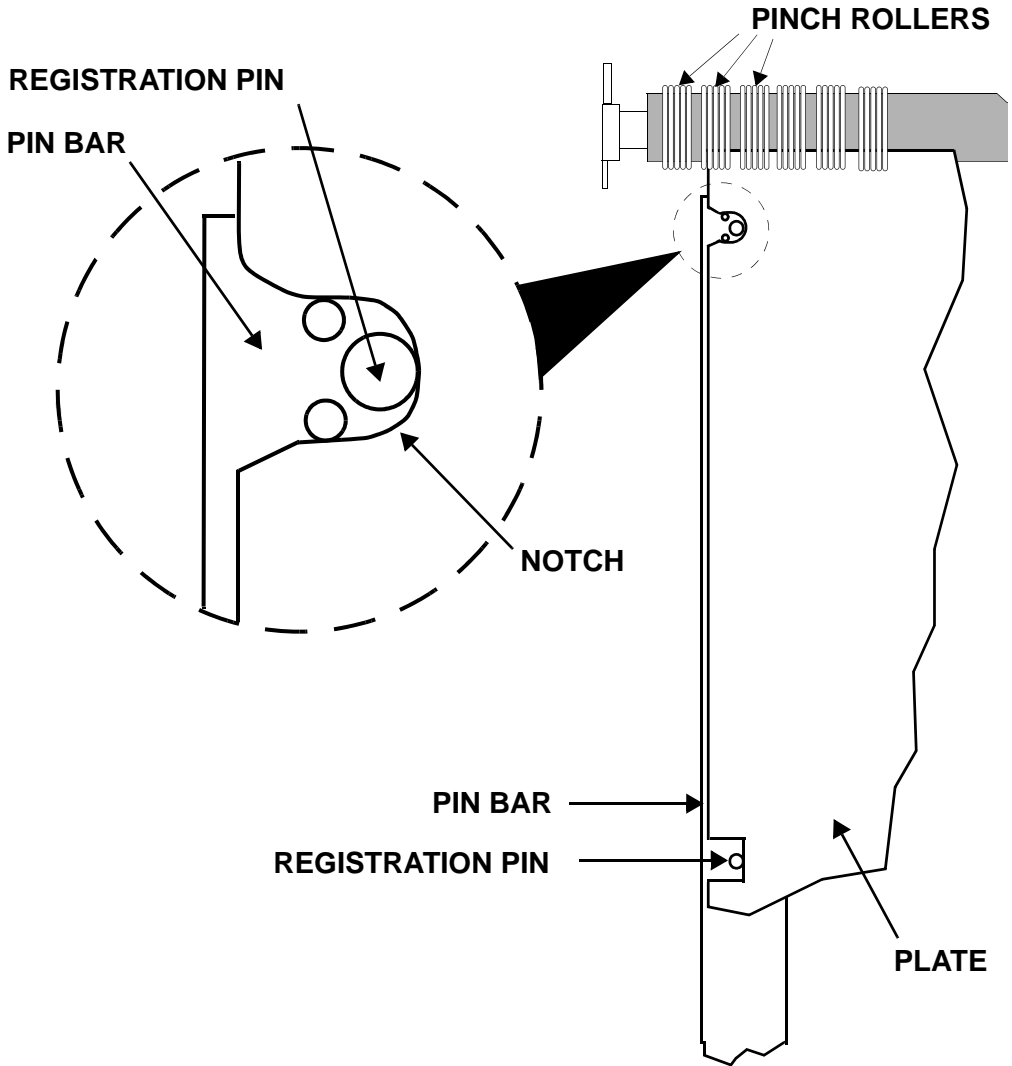

Figure 3-7 Loading Notch-registered Plates.
Step 4. Position the plate so that both notches in the plate fully engage the two registration pins on the pin bar (see Figure 3-7).